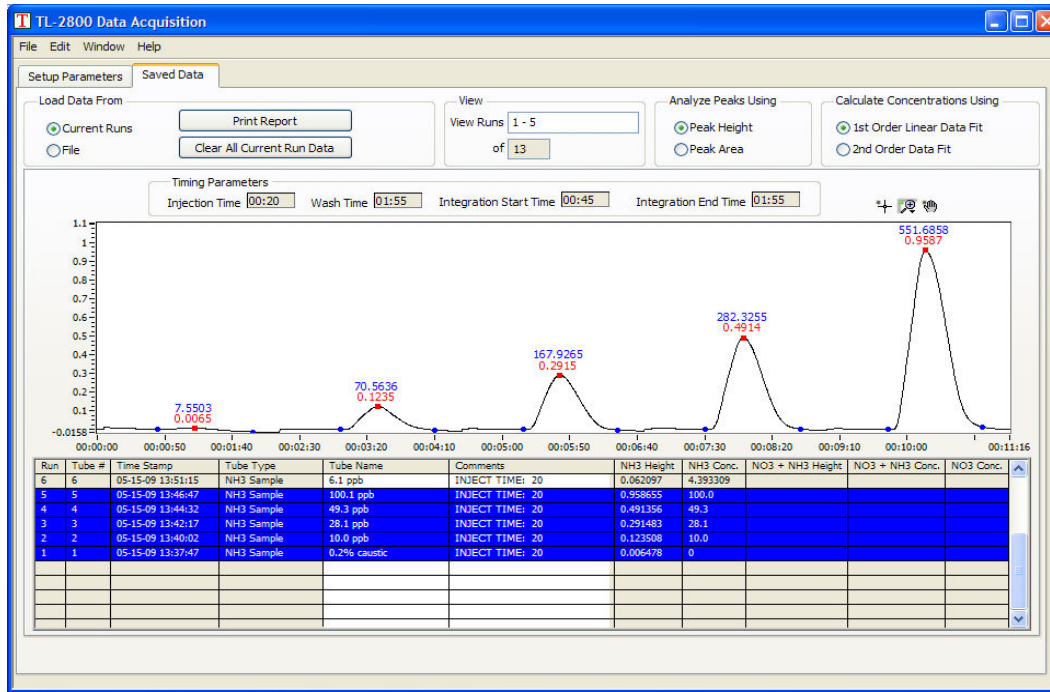

Figure 3-5: Saved Data Tab.
- To view the data, switch to the 'Saved Data' tab. Here the peaks from all tubes that have been run can be viewed. The red square marker on the peak indicates the maximum height and the red text indicates that height. The blue markers show the integration time points for each peak area and the blue text indicates that area. The same height and area information can be found in the results table. See figure 3-5.